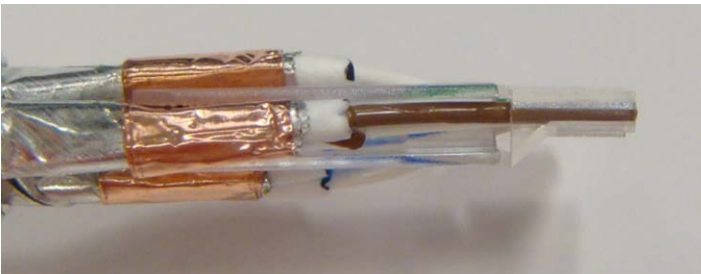

Figure 22: Trimming connectors
13. Slide the load bar down the pair until it sits as close as possible to the plastic wire aligner. Using cutters, trim the conductors flush with the edge of the load bar (Figure 22).